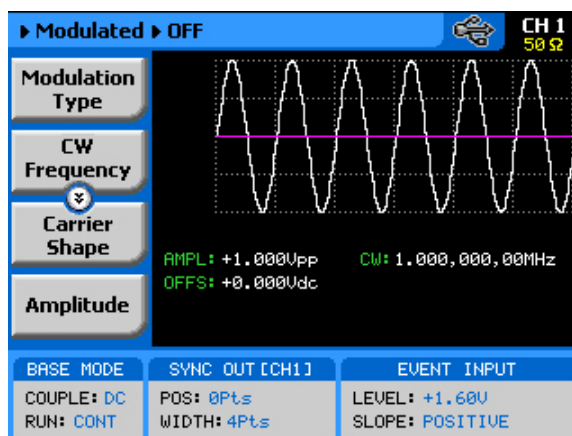

Figure 3-33: Modulation OFF Parameters
The Modulation Off is a special instance of the modulation function, where the output is not modulated, but generates carrier waveform (CW) frequency only. CW can be sine, triangle, or square waveforms. When placed in Modulation Off, the CW is generated from the main outputs continuously. The CW parameter does not change when you switch from one modulation function to another. Figure 3-33 shows the Modulation Off menus.